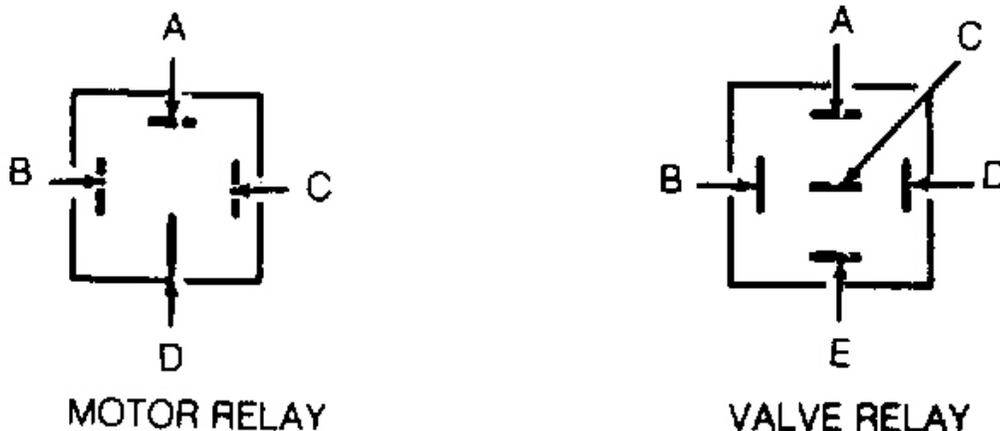

Fig. 11: Identifying Motor & Valve Relay Terminals
1. Disconnect negative battery cable. Remove motor relay from hydraulic unit. Ensure continuity exists between terminals "B" and "C" of motor relay. See **Fig. 11**. Connect 12 volts to terminal "C", and ground terminal "B". Ensure continuity exists between terminals "A" and "D".
1. Disconnect negative battery cable. Remove valve relay from hydraulic unit. Using a DVOM, check continuity between relay terminals "C" and "E" and between terminals "B" and "D". See **Fig. 11**.